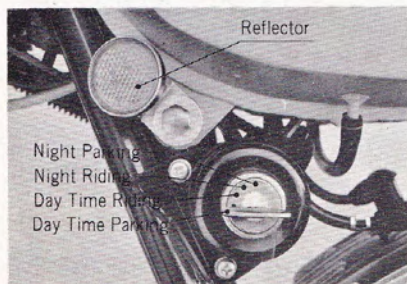

Fig. 18
The 12V, 35/25W head lamp is turned on when the main switch key is turned to position (2) for night riding. (See Fig.18).